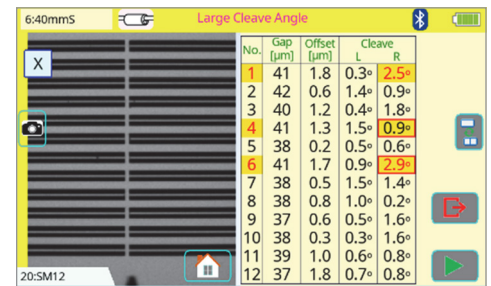

Figure 4
**Large Cleave Angle** indicates the angle of the fiber's end-face is larger than the threshold allowed by the current splice mode (**Figure 4**).